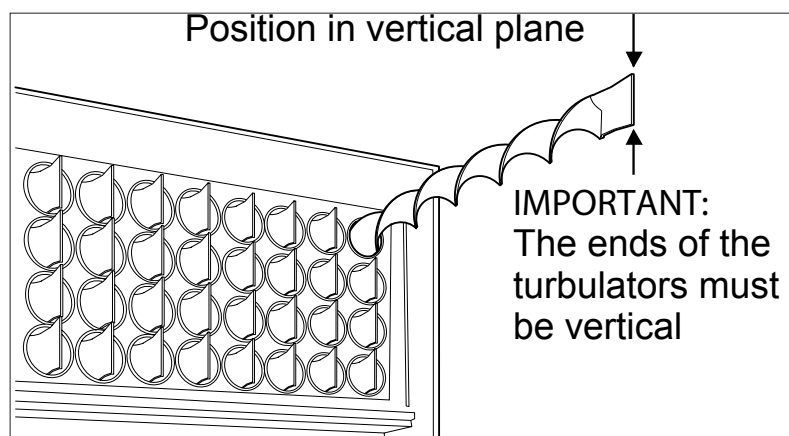

Figure 11-3: Turbulators in VortexBlue Combi boilers
7. Pull out the spiral turbulators from the heat exchanger tubes. See Figure 11-3. Clean the turbulators using a stiff brush.